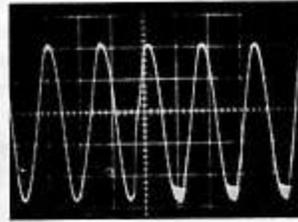

Fig. 4.
- Fig 4. TID. full power. Very mild disturbance.